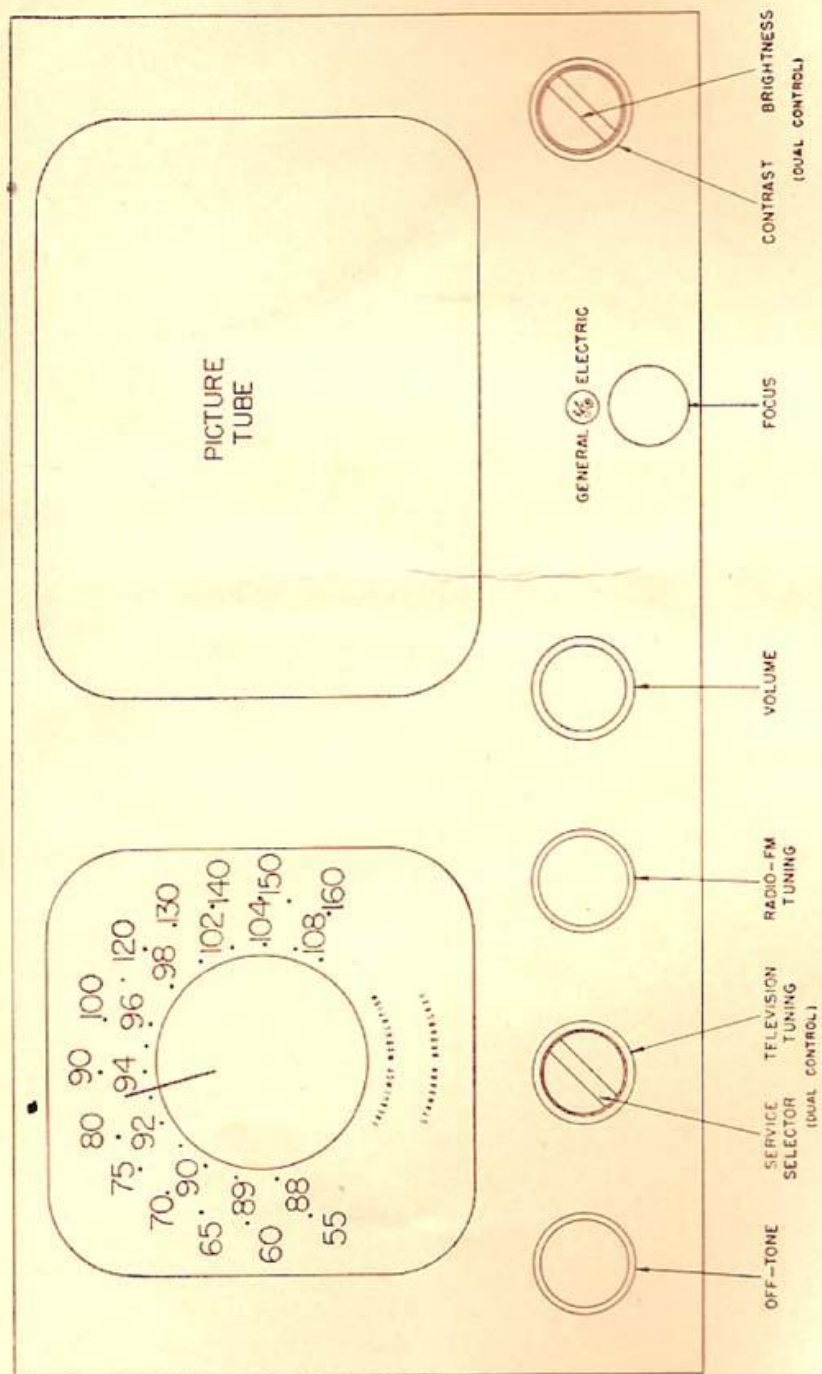

Fig.1. Operating Controls
The location and names of all operating controls are shown in Figure 1.
**HOW TO OPERATE YOUR RADIO**—The radio section of the receiver may be used to tune the standard broadcast stations between 540 and 1600 kilocycles and the FM stations between 88 and 108 megacycles, in place of a television program. The radio section makes use of the Volume, Off-Tone, Radio and FM Tuning, and the Service Selector controls. The location of these is shown in Figure 1.
The television section of your receiver tunes in thirteen assigned commercial television channels. The controls requiring adjustment for the television sound and vision sections are: the Service Selector, Television Tuning, Contrast, Brightness, Focus, Off-Tone, and Volume. The location of these controls is shown in Figure 1.